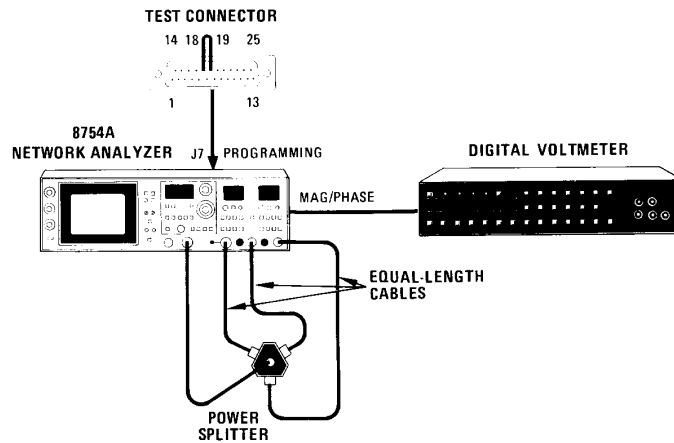

Figure 5-41. Phase Detector and Polar Converter Adjustment Test Setup
- k. Connect equipment as shown in Figure 5-41. Connect test connector with jumper between pins 19 (MAG/PH) and 18 (GROUND) to rear panel PROGRAMMING connector J7.